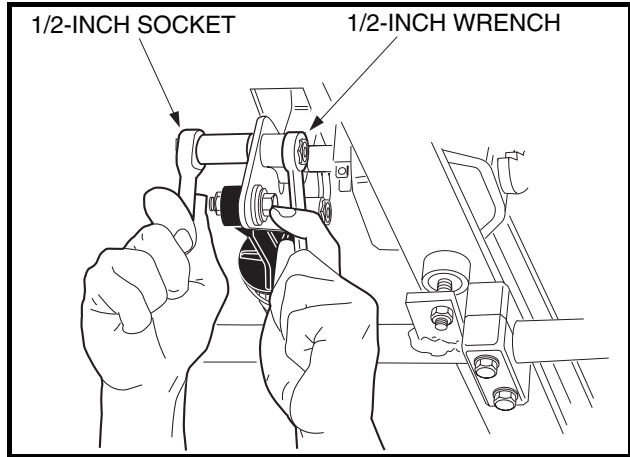
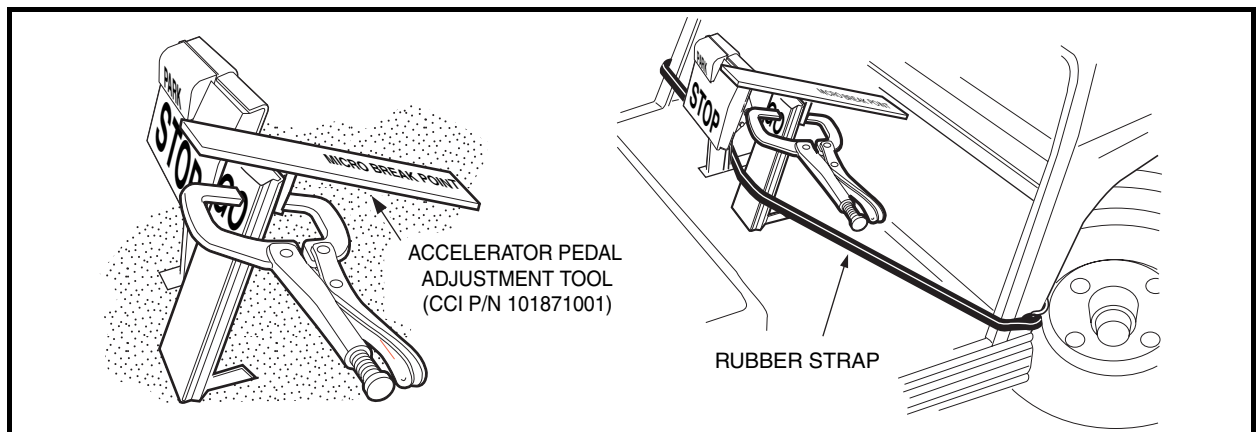

Figure 5-17 Accelerator Pedal Height Adjustment
Figure 5-18 Accelerator Pedal Height Adjustment
- 4.1. Loosen the nut and bolt (Figure 5-17, Page 5-14) securing the accelerator pedal to the pivot plate. Clamp the accelerator pedal adjustment tool (CCI P/N 101871001) to the accelerator pedal, with the end marked accelerator pedal height closest to the floorboard. Press the accelerator pedal until the end of the tool rests against the floorboard; pedal height should be 5-5/8 inches (14.3 cm). Use a rubber strap to hold pedal in position against the floorboard and then tighten nut to 26 ft-lb (35.3 N-m) (Figure 5-18, Page 5-14).